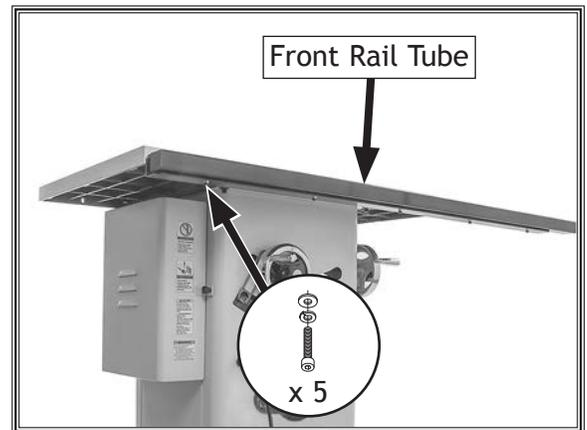

Figure 25. Front rail tube attached to front rail.
- Install front rail tube onto front rail with (5) M6-1 x 16 cap screws, 6mm flat washers, and 6mm lock washers, as shown in **Figure 25**. Finger-tighten fasteners.